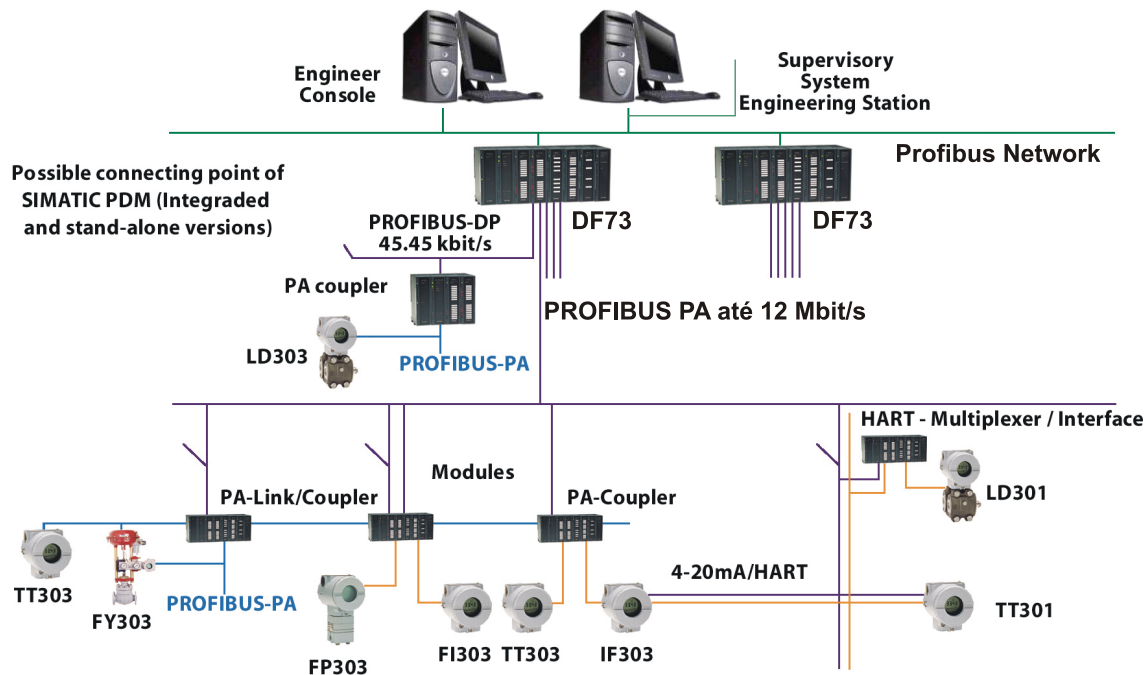

Figure 3.54 – Profibus Network
The number of devices (N) per PA segment is the purpose of quiescent consumption of each PA device, the distances involved (type A loop cable resistance: 44 Ω /km), the DP/PA Coupler and its drained current, area classification (couplers for classified area drain currents around 110 mA, 12V output voltage), besides the FDE current (usually 0 mA, depending on the manufacturer). In hazardous areas the device number must be limited by intrinsic safety barrier, according to security restrictions in the area and limits of the DP/PA coupler. See Figure 3.54.